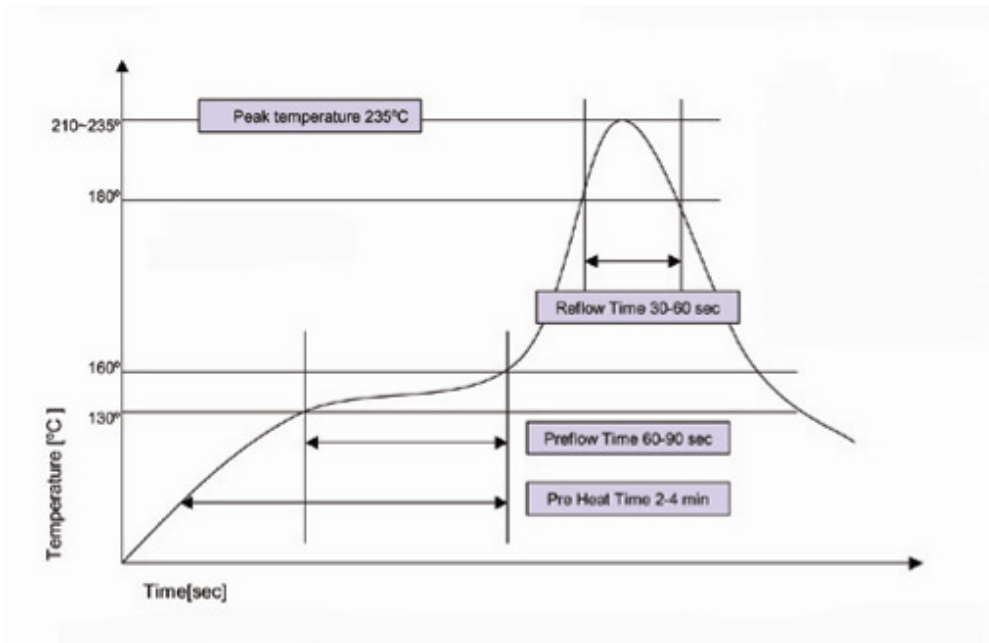

Figure 5 – Low Temperature Solder Reflow Thermal Profile
**Reflow:** The surface mount coupler is conducive to most of today's conventional reflow methods. Low and high temperature thermal reflow profiles are shown in Figures 5 and 6, respectively. Manual soldering of these components can be done with conventional surface mount non-contact hot air soldering tools. Board pre-heating is highly recommended for these selective hot air soldering methods. Manual soldering with conventional irons should be avoided.